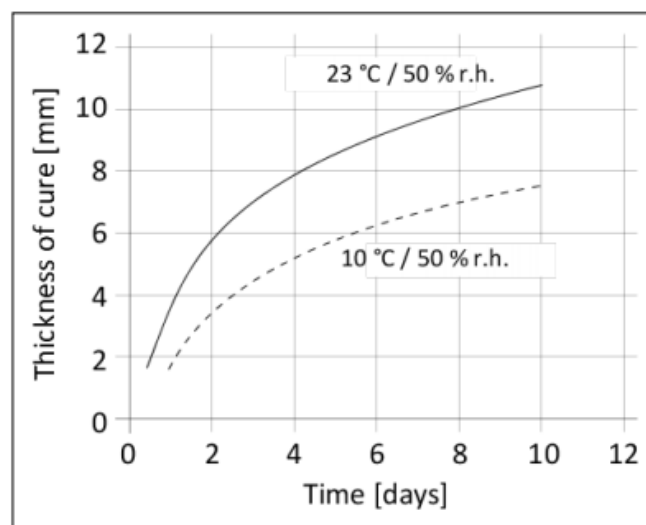

Figure 3
**Do Not proceed with fitting any hardware to the frame until the glue has set and the frame is securely in place (at least 24 hours).** Figure 3.